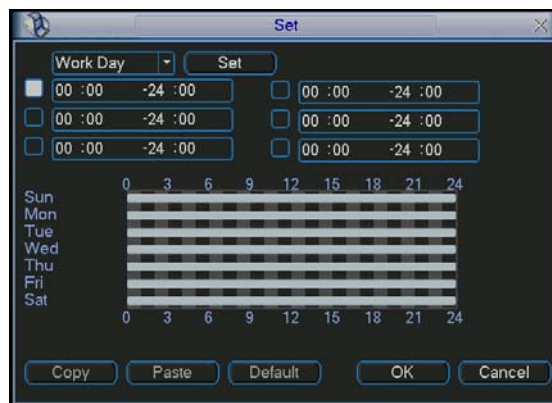
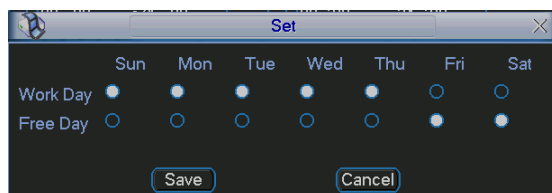

Figure 4-30
Figure 4-31
- Period: Click set button, you can see an interface is shown as in Figure 4-30. Here you can set for business day and non-business day. In Figure 4-30, click set button, you can see an interface is shown as in Figure 4-31. Here you can set your own setup for business day and non-business day.